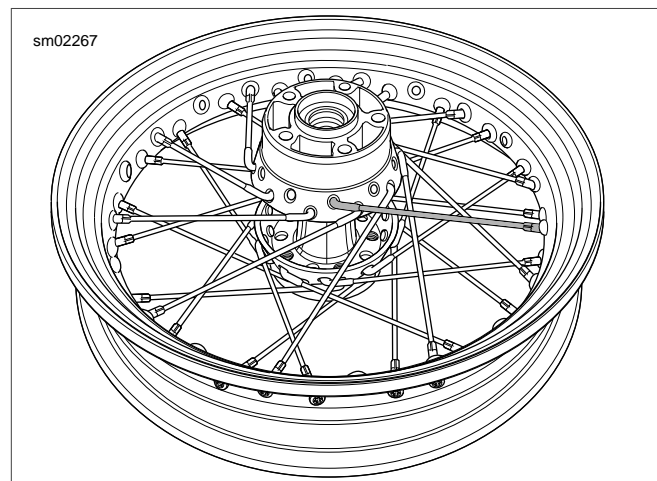

Figure 2-28. Sprocket Side Up: Start First Spoke of Top Row
9. See Figure 2-28. Insert any **upper** row spoke into hub and angle spoke counterclockwise. Place spoke into appropriate rim hole.